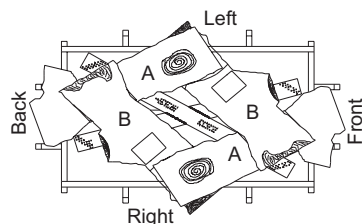

Figure 49 - Installing Logs "B" (Top View)
7. Place logs "B" as shown in Figure 49. Lift end of log "A" that will be propped up and place log "B" under it. At the same time, the other side of log "B" is placed over the other log "A". Repeat procedure for the other log "B". The charred area on these four interlocking logs must be aligned flush with each other. Make sure the logs does not cover any of the burner ports.